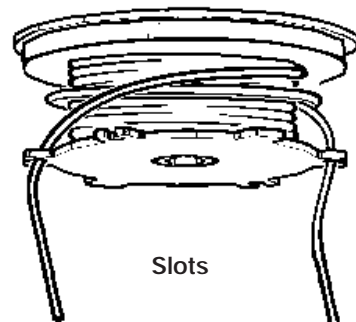

Fig. 16
6. Lock each end of the line into a slot on opposite sides of the spool (Fig. 16).